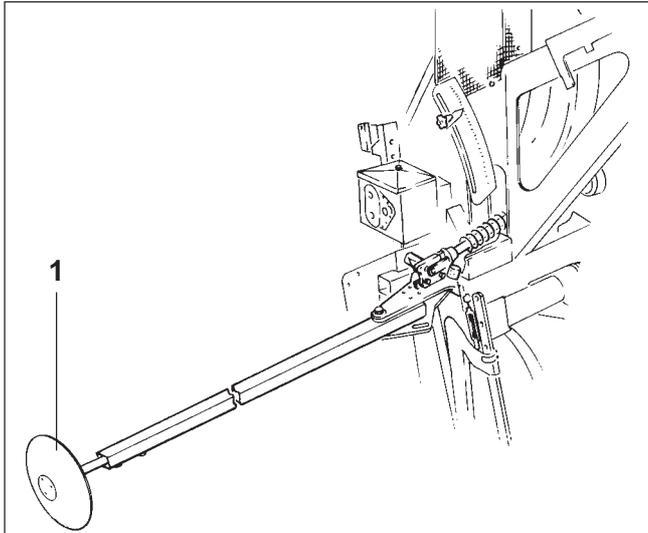
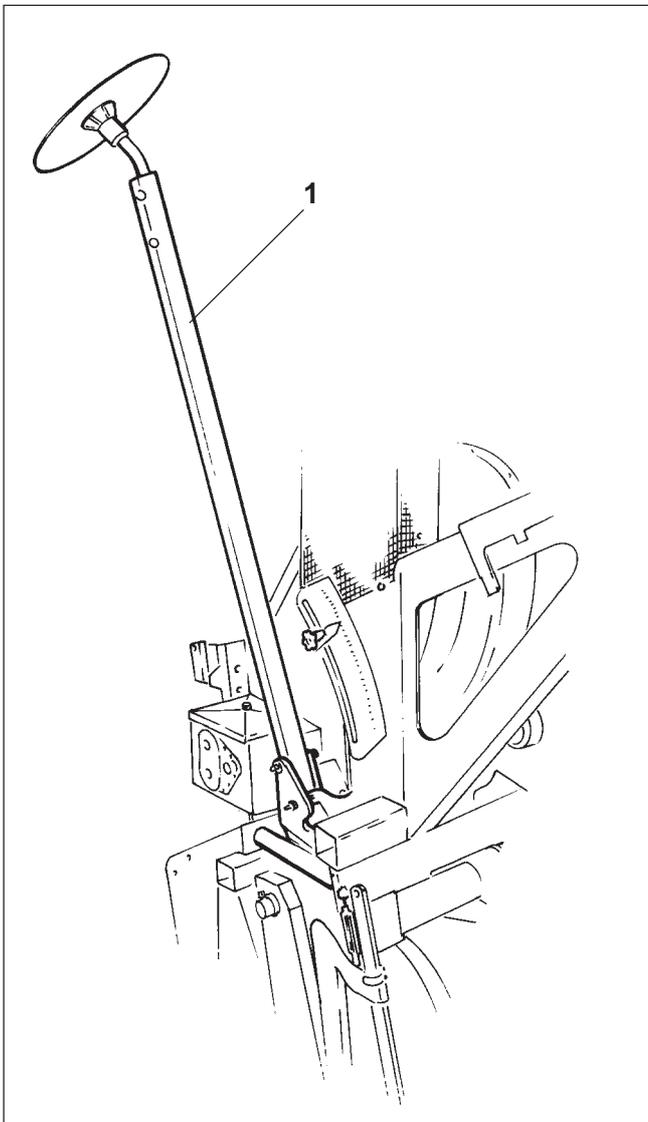

Fig. 23.1
Fig. 23.2
The seed drill is equipped with two markers (Fig. 23.1) for **marking a trace in the tractor centre**. After turning on the headland the tractor follows the centrally marked trace when travelling the next bout.
The trace is marked during sowing from one marker disc (Fig. 23.1/1).
After turning on the headland the marker (Fig. 23.2/1) is lifted and the opposite marker begins to operate.
- from transport position (Fig. 23.2) into operation position (Fig. 23.1) or vice versa